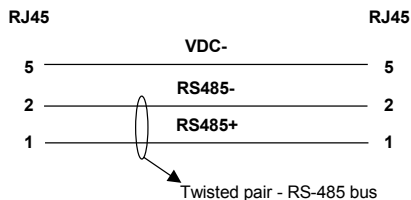
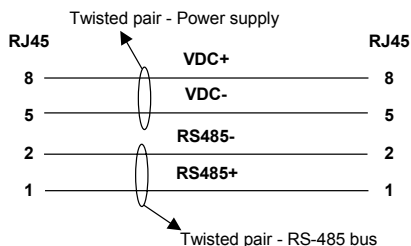

Figure 10 - Powering Each STARGATE™ Individually
Figure 11 - System with Power Propagation
The power can be either individually supplied to each STARGATE™ present in the system or propagated from one base station to another by means of a single power supply (see Figure 10 and Figure 11 for further details).
- E. Custom cable (see Figure 10 and Figure 11)